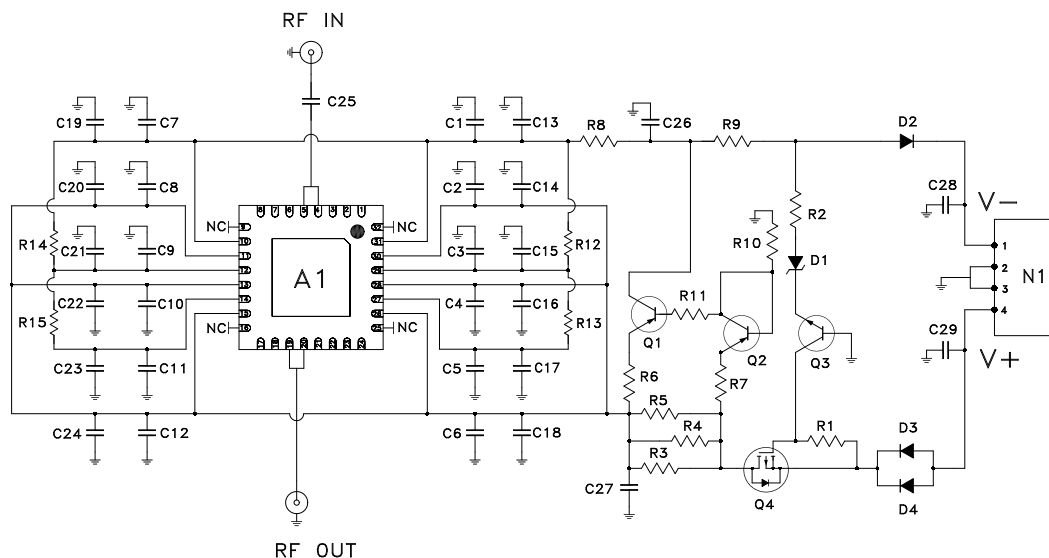

Fig. 1 Schematic of Test Board TB-715-5V (Test & Application)
- Measured on Mini-Circuits Test Board TB-715-5V. See Characterization Test Circuit (Fig. 1), See cautionary note .
ALTERNATELY – utilize the bias circuit defined in Figure 1 which does not require any voltage sequencing or gate voltage adjustment. This circuit operates with +6.4 Volts and -5 Volts and automatically ensures proper sequencing of supply voltages for safe operation. MINI-CIRCUITS WARRANTY IS VOID IF USED WITHOUT CIRCUIT DEFINED IN FIGURE 1
NOTE: MINI-CIRCUITS WARRANTY IS VOID IF FIGURE 1 IS NOT USED.